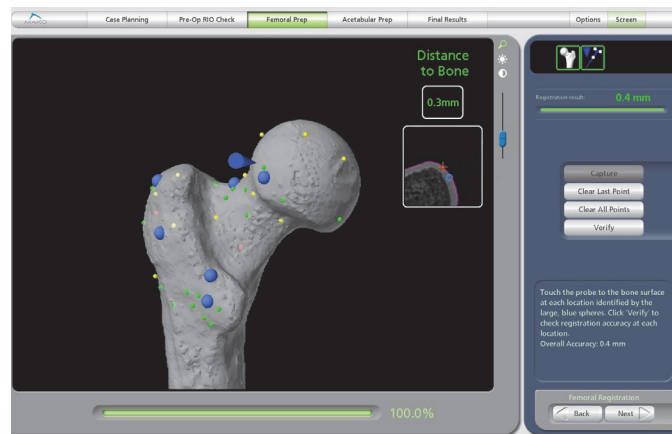

Figure 15. Femoral Registration Verification Pattern
- Registration Verification:** Verify the registration by placing the probe on the surface of the bone in the critical areas of the proximal femur identified in the software by the large blue spheres (Figure 15). If the distance to bone is less than 1 mm, the sphere will turn white. If the distance to bone within the verification sphere is more than 1 mm, the sphere will turn red. If more than one sphere is red, the registration should be repeated.